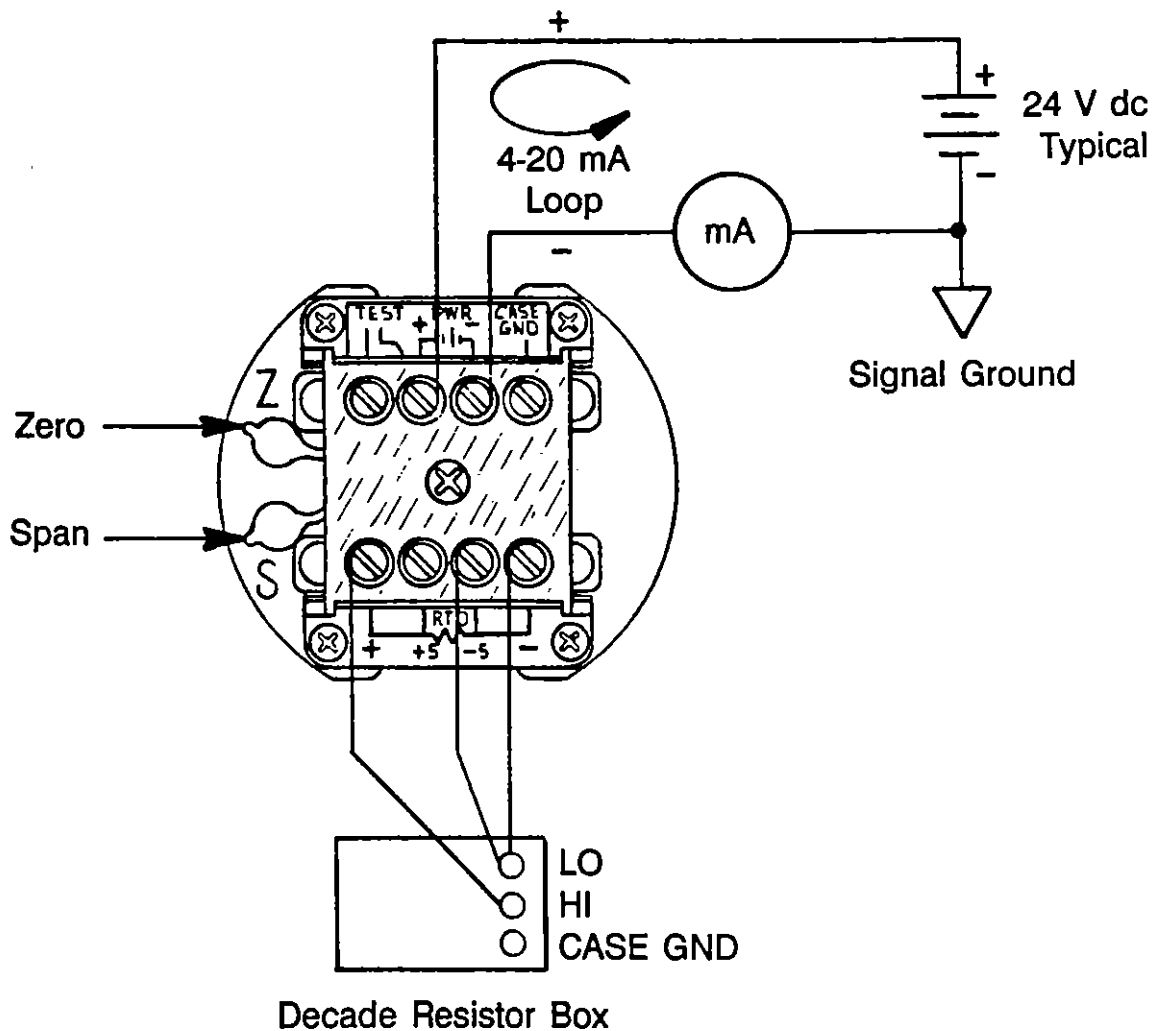

Figure 5-1 Calibration Setup
1. Refer to Figure 5-1. Remove the four Phillips-head screws from the case top, and set aside the plastic barrier cover. Lift out the electronics assembly (attached to the case lid).